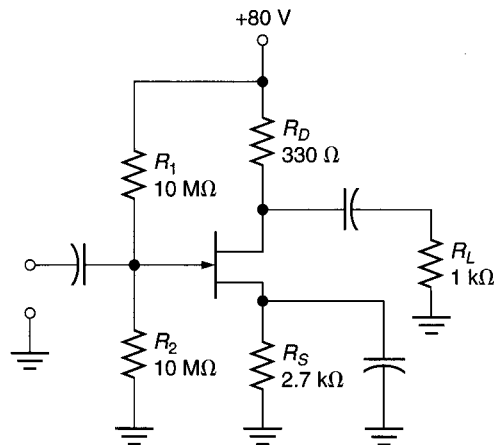

FIGURE 12.76
50. Can the 2N5486 be used safely in the circuit shown in Figure 12.76? Explain your answer using circuit calculations.